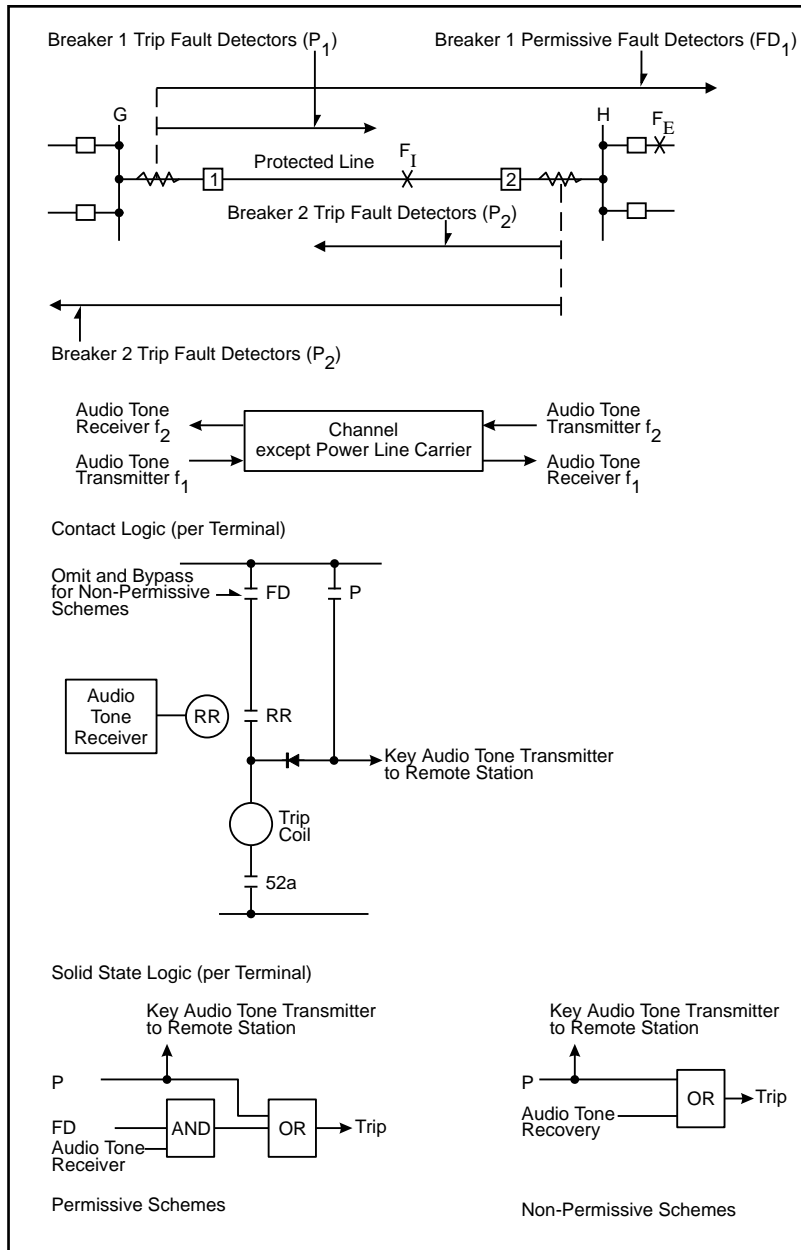

Figure 2-3. Basic Logic Diagrams for Underreaching Transfer Trip Systems.
For overreaching systems, the directional phase and ground trip fault detectors (P) must be set to overlap within the transmission line and not overreach any terminals (see Figure 2-3).
Though it is the least complex, the non-permissive system is rarely used because of the high potential for false outputs from the channel, which would cause incorrect tripping. If a non-permissive system is used, the channel considerations should be as described later for direct trip systems. The system is made permissive by the additional set of phase and ground overreaching fault detectors (FD), which must operate for all internal faults (see Figure 2-3).
Operation of the underreaching transfer trip scheme shown in Figure 2-3 is described in Table 2-2 for external and internal faults.